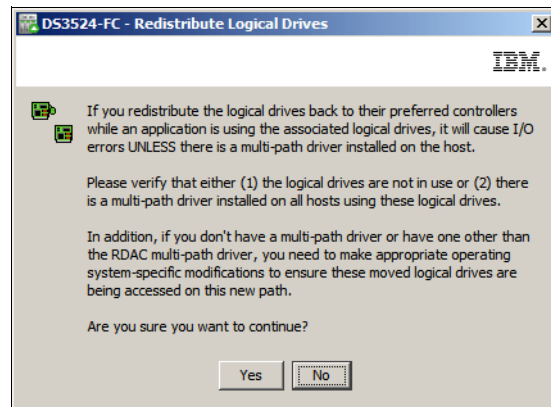

Figure 14-141 Redistribute Logical Drives confirmation
- The window shown in Figure 14-141 will be displayed. Read the information and then click the **Yes** button to redistribute the logical drives to their preferred controller.